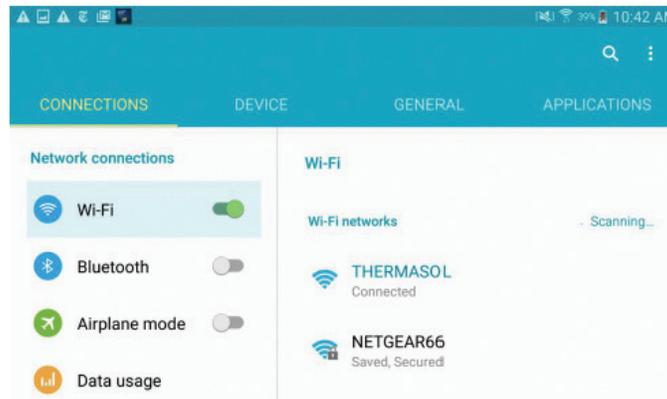

Figure 18: Android Wi-Fi settings
5. After connecting, you will see “Connected” beneath ThermaSol as shown below in Figure 18